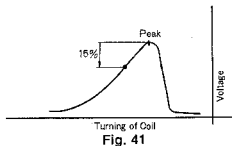

Fig. 41
2. * Reduce the voltage value to 15% lower than that at maximum output by turning OSC coil. (Refer to fig. 41.)